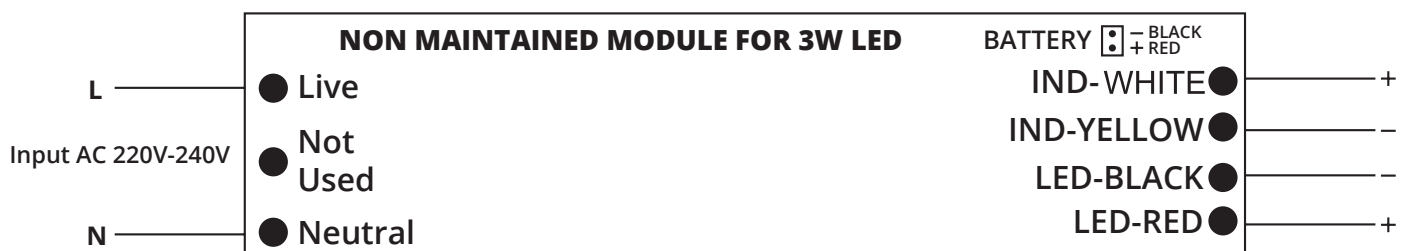

Figure 1
4. Follow diagram in Figure 1 and cable legend below: